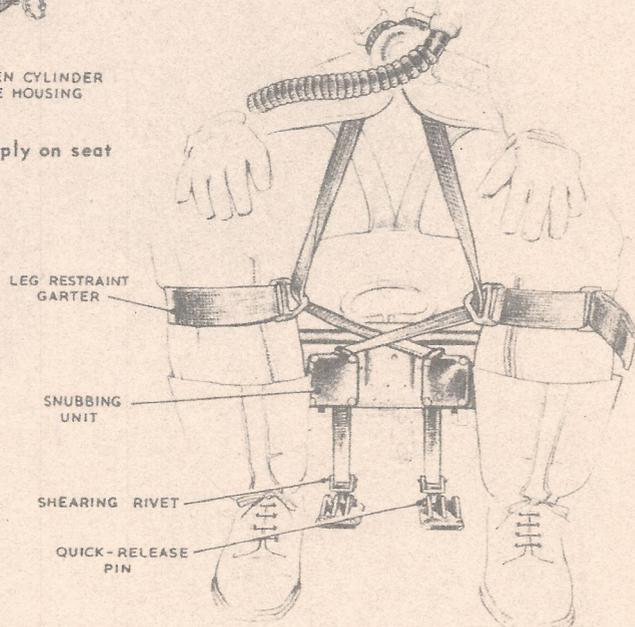

Fig. 5. Arrangement of leg restraint cords
15. The strapping-in procedure is as follows; refer to fig. 5, 6 and 7 for details as necessary :-